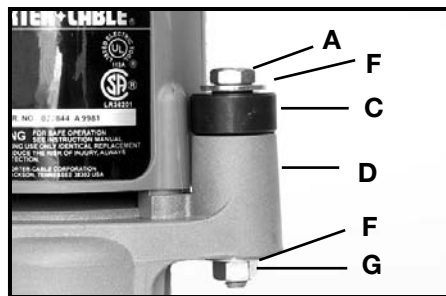

Fig. 2
5. Place the other washer (F) Fig. 2 onto bolt and secure with hex nut (G). Tighten securely.